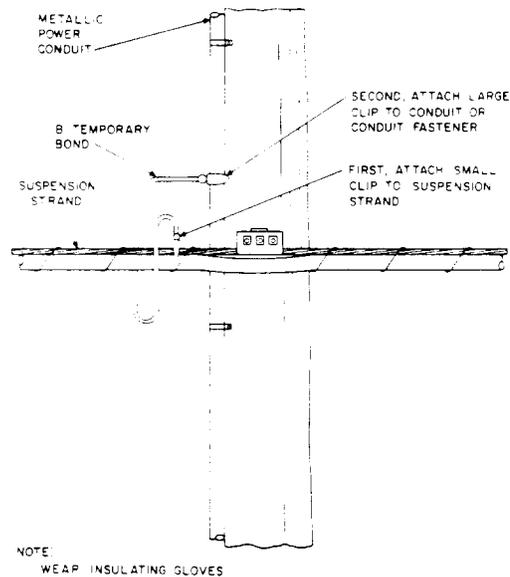

Fig. 15--Temporary Bond Attachment to Metallic Power Conduit
7.03 Use of the B Temporary Bond: The B temporary bond is used to temporarily ground a fixture, conduit, or bare vertical ground wire (Fig. 15) while working aloft. Should a fault develop, the B temporary bond will provide a direct path to ground for the foreign potential. The insulation on the bond may overheat and smoke which should alert the technicians to descend the pole. Using rubber insulating gloves, attach the bond in the following manner: